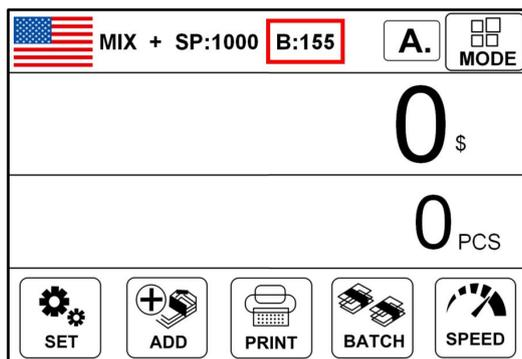

Figure 45
3) Please press the “ESC/CLR” key to return to the main interface, and then press the “” key on the right side of the frame to switch to the previously set value of 155, as shown in Figure 45: